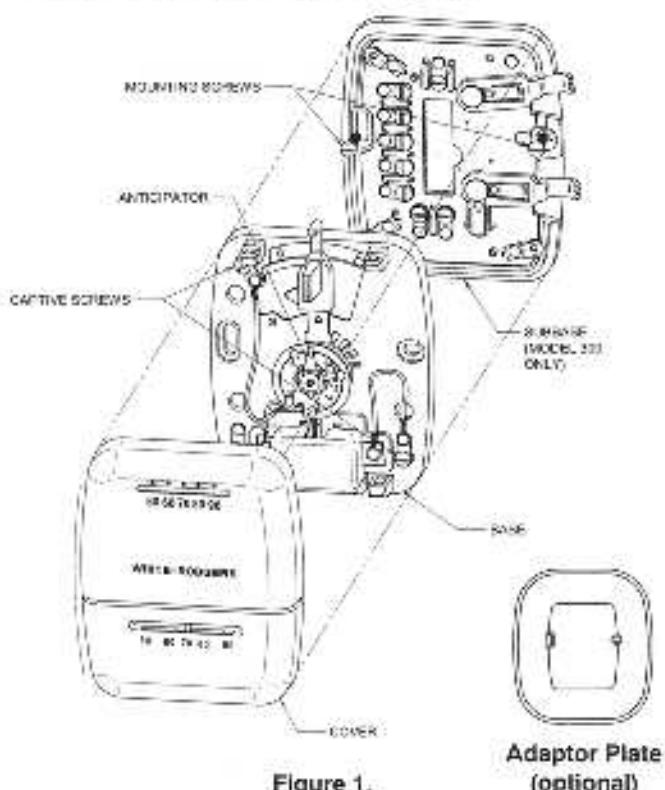

Figure 1.
- Mount base and adaptor plate: Mount base and adaptor plate (optional) to wall using screws provided (see Fig. 1).
- Mount switching subbase/adaptor plate: Use the screws provided to mount the subbase and adaptor plate (optional) to wall (see Fig. 1).
- Mount Thermostat Base: Gently push excess wire back into the wall opening and plug hole with a fire-resistant material, such as fiberglass insulation to prevent drafts from affecting thermostat operation. Mount the thermostat base to the sub-base using the three captive screws on the thermostat base. (See Fig. 1) Tighten the screws securely. Remove paper tag from plastic contact cover. Proceed to Step #5.